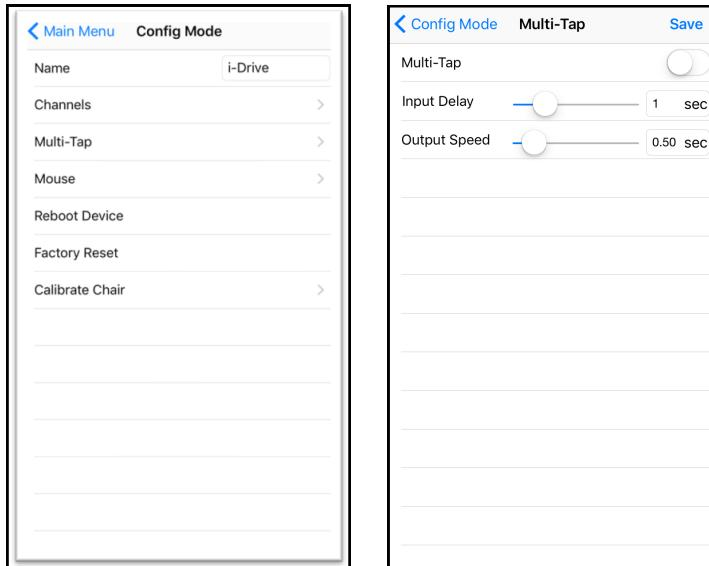

Figure 7
2. Under the *Multi-Tap* setting, *Input Delay* and *Output Speed* can be adjusted. Move the cursor to the right or left to make adjustments. (*Figure 7*)